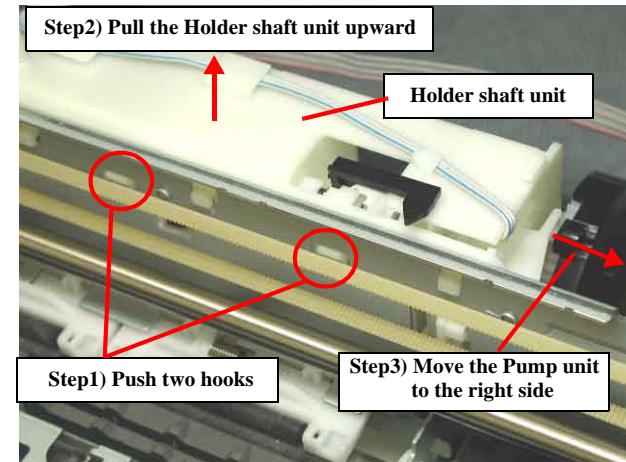

Figure 4-29. LD roller shaft holder removal
7. Push two hooks of the LD roller shaft holder, and pull the Holder shaft unit upward slightly from the Main frame. (Step1, 2 in the Figure 4-29)
8. Move the Pump unit to the right side slightly while holding the whole of the Holder shaft unit, and pull the bottom of the Holder shaft unit toward the backside of the printer. (Step 3 in the Figure 4-29)